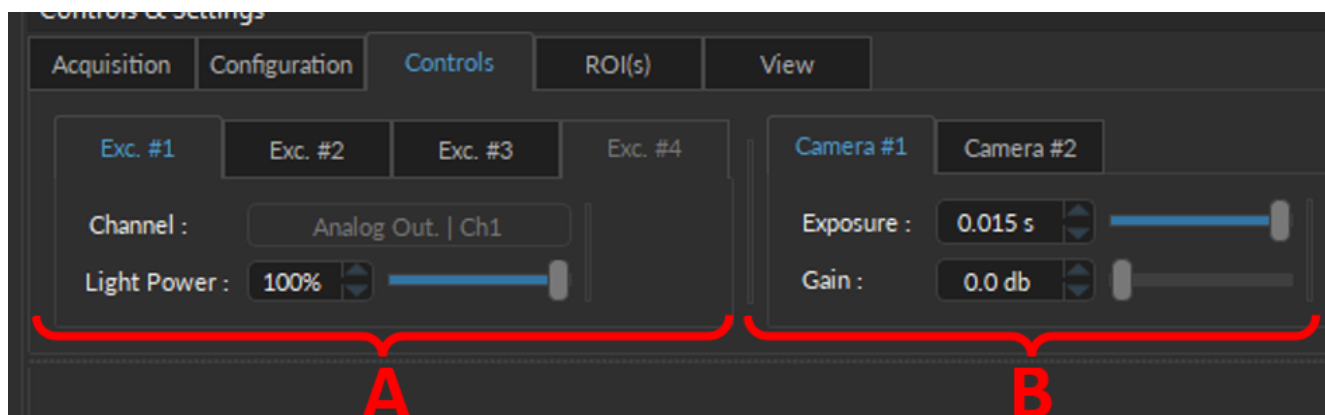

Figure 10.11: Controls Tab
The **Controls** section is split into two subsections (Fig. 10.11):
1. The **EXC # tabs** (Fig. 10.11, A) controls the strength of the LED excitation(s) required for fiber photometry.
2. The **Camera # tab(s)** (Fig. 10.11, B) controls the acquisition parameters of each *BFMC* or *BFTO* camera.